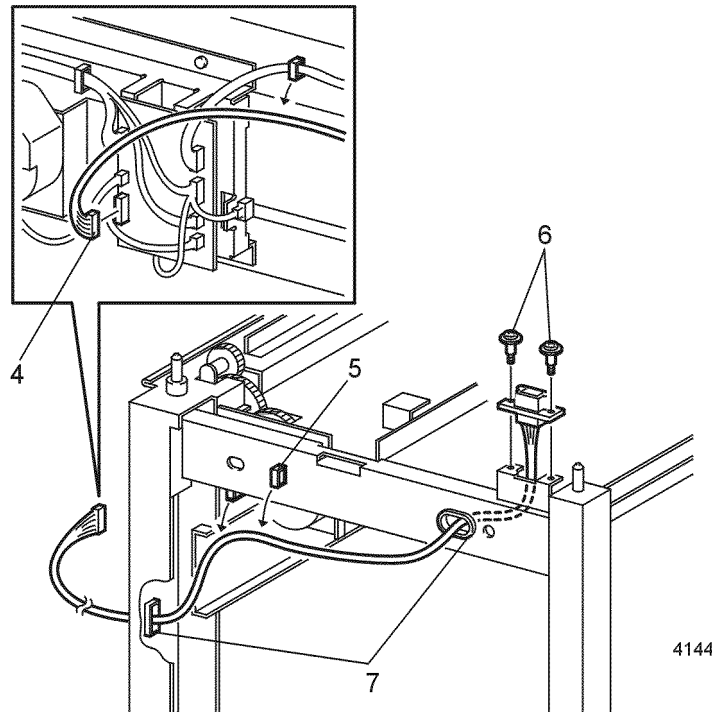

Figure 1 Harness Assembly
5. Release the harness from all cable clamps (Figure 1).
6. Remove the two screws that secure the harness connector to the frame (Figure 1).
7. Guide the harness through the holes in the frame as you remove it (Figure 1).